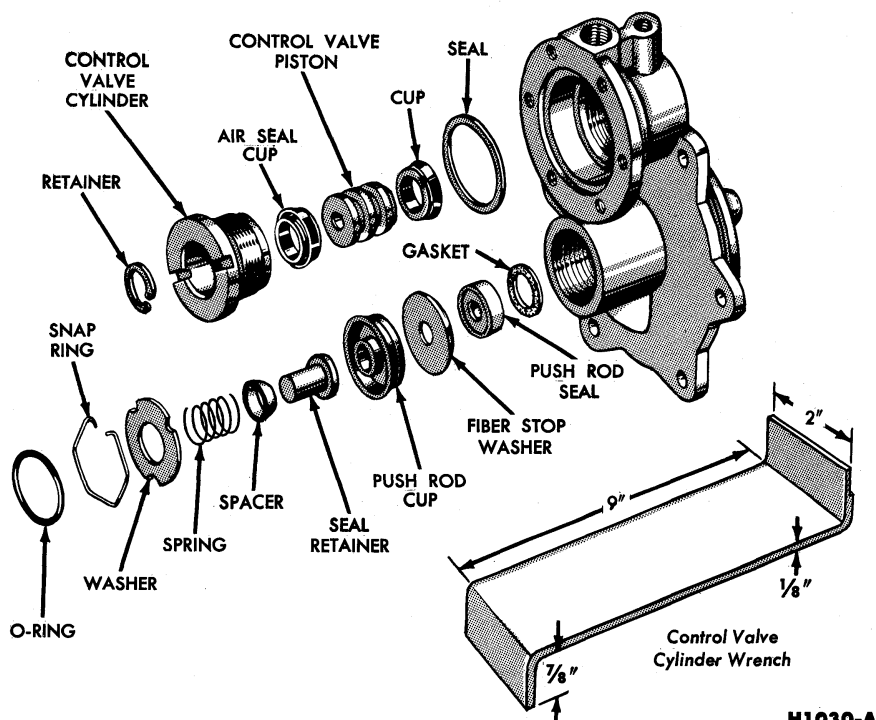

FIG. 5—End Plate—Disassembled
3. Remove the hydraulic piston O-ring (Fig. 5). Remove the snap ring, washer, seal retainer and spacer, cup, fiber stop washer, and spring from the bore of the end plate.
5. With a special tool (Fig. 5), remove the control valve cylinder